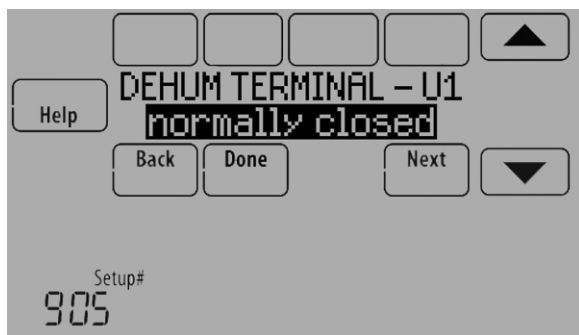

Fig. 192.
- Select whether the U1, U2, or U3 terminals are Normally Open or Normally Closed. See Fig. 192.